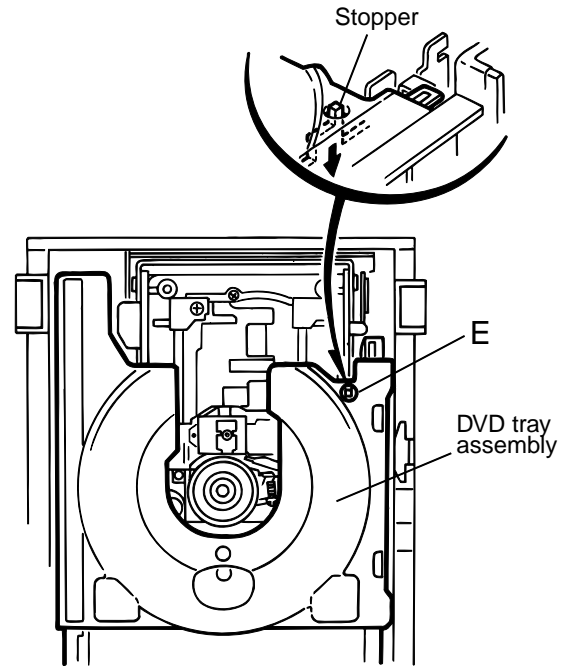

Fig.5
11. Check whether the lifter unit stopper has been caught into the hole at the section "E" of DVD tray assembly as shown in Fig.5.